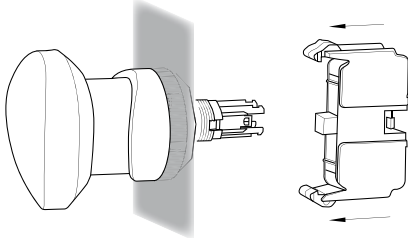

Fig. 2
**Assembly of the support (see Fig. 2)**
The support for round actuating elements can be used for two ranges of front plate thickness. Upon delivery, the support is set to the thickness 1 ... 4 mm (Fig. 2 left) and is positioned from the rear side onto the actuator in the arrow direction "1 – 4 mm". The fixing screw is located at the bottom right
For front plate thicknesses of 3 ... 6 mm, the support is turned, so that the support is fitted in the arrow direction "3 – 6 mm". In this case, the fixing screw must be turned counterclockwise up to the end stop before the support is installed (Fig. 2 right).